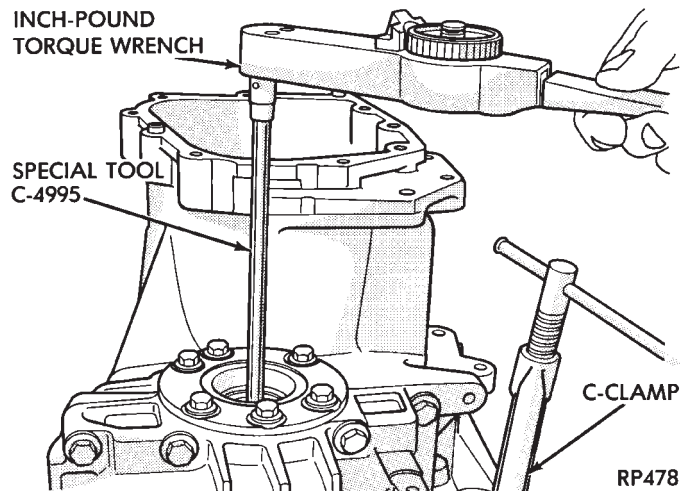

Fig. 4 Checking Differential Bearing Turning Torque
(6) The **Shim** required for proper bearing preload is the **total of the gauging shim thickness, plus end play, plus (constant) preload of 0.254mm (.010 inch)**. Combine shims, if necessary, to obtain a shim within .05mm (.002 inch) of the required shim (see Shim Chart for proper shims).
(7) Remove differential bearing retainer. Remove bearing cup and gauging shim. Properly install oil baffle. **Be sure oil baffle is not damaged.** Install shim(s) selected in step (6) and press in the bearing cup into differential bearing retainer.
(8) Using a 1/16 inch bead of MOPAR® Gasket Maker, Loctite 518, or equivalent for gasket, install differential bearing retainer. Torque all bolts (See Tightening Reference).
(9) Using Special Tool C-4995 and an inch-pound torque wrench, check turning torque of the differential assembly in clockwise and counterclockwise directions (Fig. 4). **The turning torque should be 9 to 14 in. lbs. for new bearings or a minimum of 6 in. lbs. for used bearings. If the turning torque is too high, install a .05mm (.002 inch) thinner shim. If the turning torque is too low, install a .05mm (.002 inch) thicker shim.**